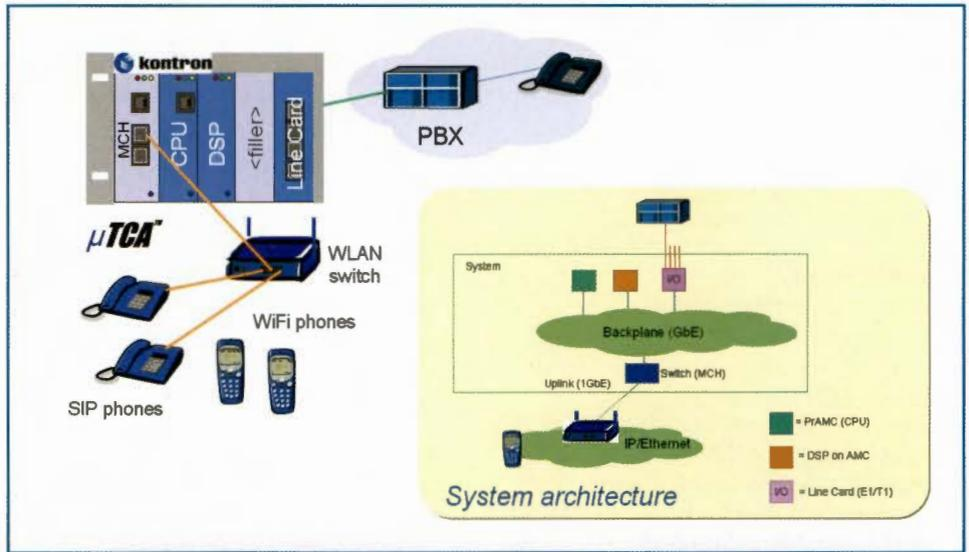

Figure 5: PCI Express
**Figure 5** shows an example configuration with a processor AMC and two peripheral cards (a graphic card for an external display and cards for external interfaces). In the simplest case, the AMC ports are run to the MCH via a PCIe switch. This enables the processor to use its four PCI Express lanes for both peripheral devices.